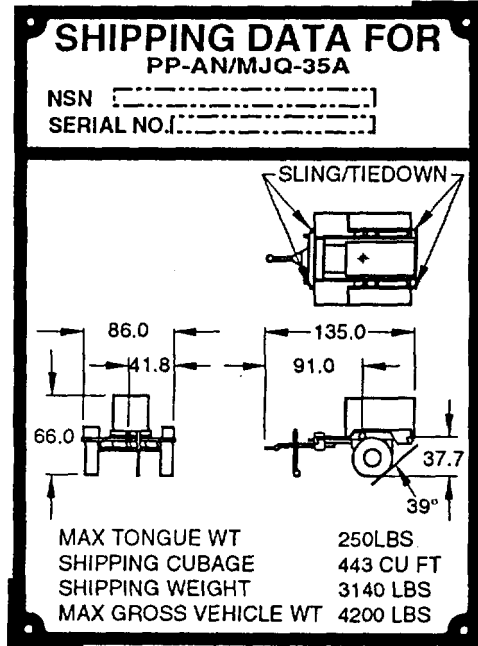

Figure 2-13.1. AN/MJQ-35A Shipping Data/Identification Plate.
**2-6.4 AN/MJQ-35A Shipping Data/Identification Plate.** Refer to figure 2-13.1. This plate is located on front of curbside fender.